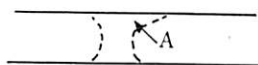

Fig. 15
- 1) Presser foot Select small a and b parts (Fig.15)